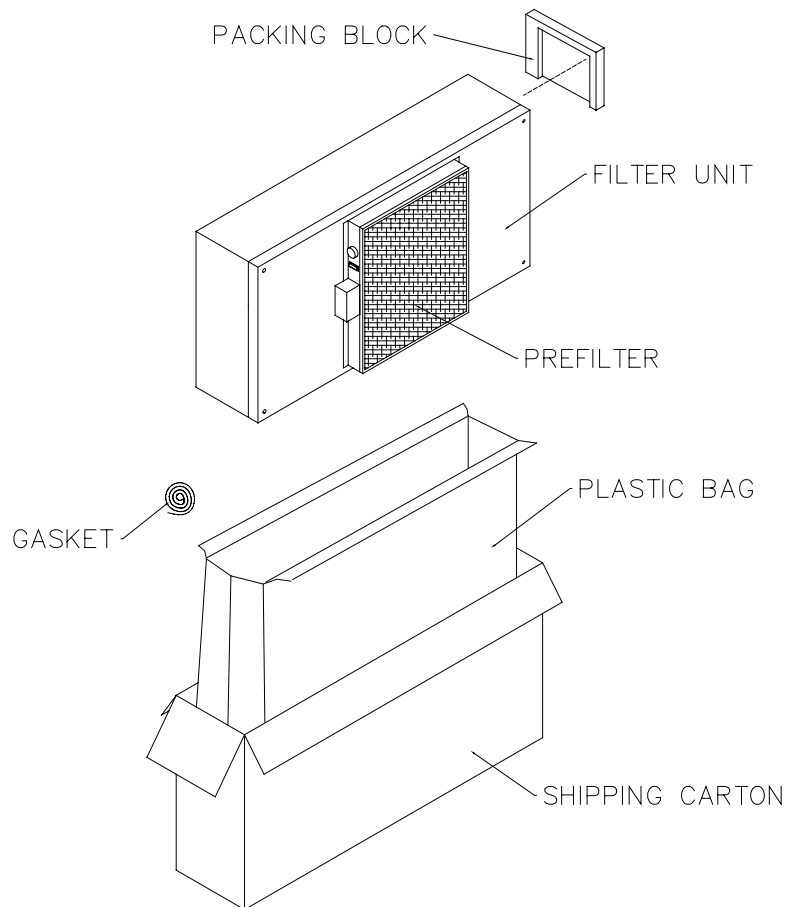

Figure 1
Step 1B. Carefully remove the unit from the shipping carton and inspect for any damage that may have occurred during transportation. (see Figure 1)